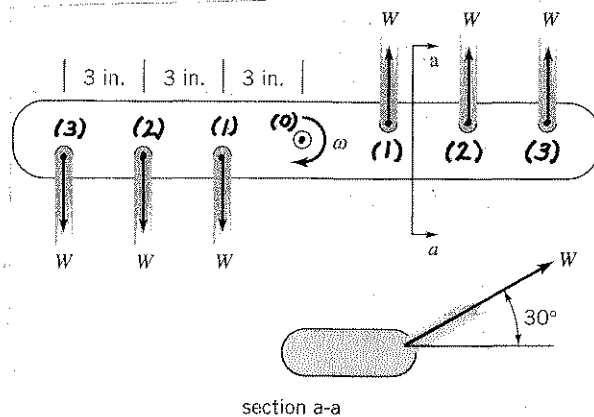

FIGURE P12.11
12.11 Water is supplied to a dishwasher through the manifold shown in Fig. P12.11. Determine the rotational speed of the manifold if bearing friction and air resistance are neglected. The total flowrate of 2.3 gpm is divided evenly among the six outlets, each of which produces a 5/16-in.-diameter stream.